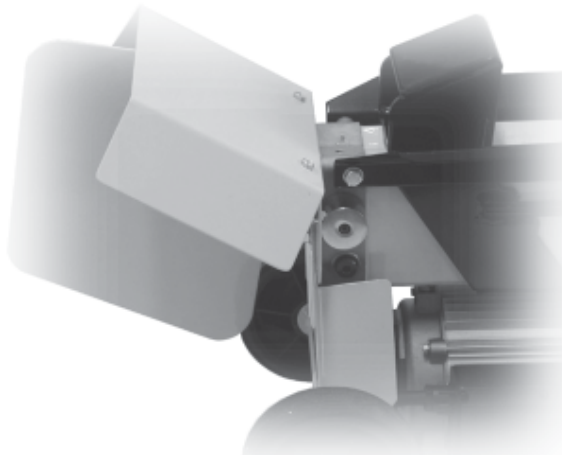

Fig. 12
6. Attach the safety cover using nuts bolts and washers supplied (Fig. 12). DO NOT overtighten nuts.